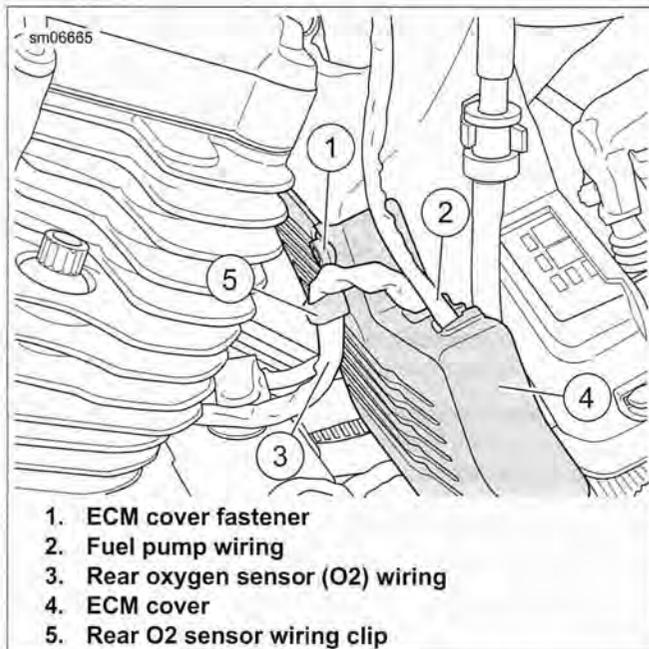

Figure 6-17. ECM Cover: XL Models
2. See Figure 6-17. Remove fuel pump wiring (2) from ECM cover (4). Disconnect fuel pump connector [141].
3. Remove rear oxygen sensor (O2) wiring (3) from rear O2 sensor wiring clip (5) and ECM cover. Disconnect rear O2 connector [85].
4. Remove ECM cover fastener (1).
3. See Figure 6-17. Slide ECM cover (4) into position from left side of vehicle.
4. Install ECM cover fastener (1). Tighten to 30-60 **in-lbs** (3.4-6.8 Nm).
5. Connect rear oxygen sensor (O2) connector [85]. Install O2 sensor wiring (3) into ECM cover and clip (5)
6. Connect fuel pump connector [141]. Install fuel pump wiring (2) into ECM cover (4).